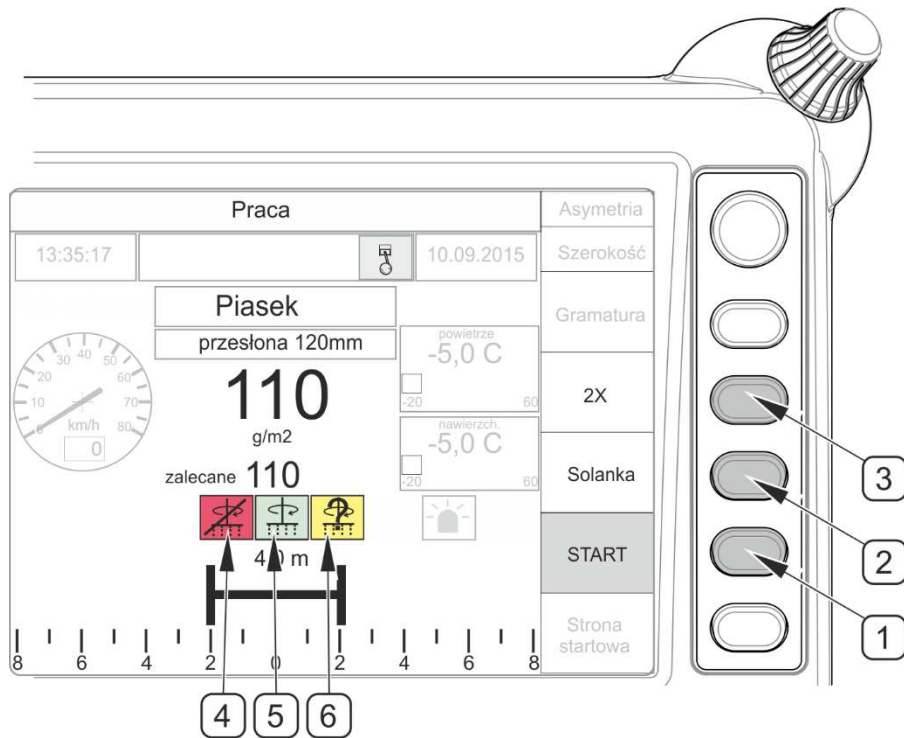

FIGURE 4.25 Start of spreading
On control panel working page "Operation" (FIGURE 4.25) , activate spreading by means of push-button (1); "Start" function will be highlighted. Activation of spreading disc drive and belt conveyor is signalled by indicator light (4). Brine spraying is switched on and off by means of push-button (2) "Brine" (not active for sand). Push-button (3), marked „2X”, is used for momentary doubling of spreading material dose.